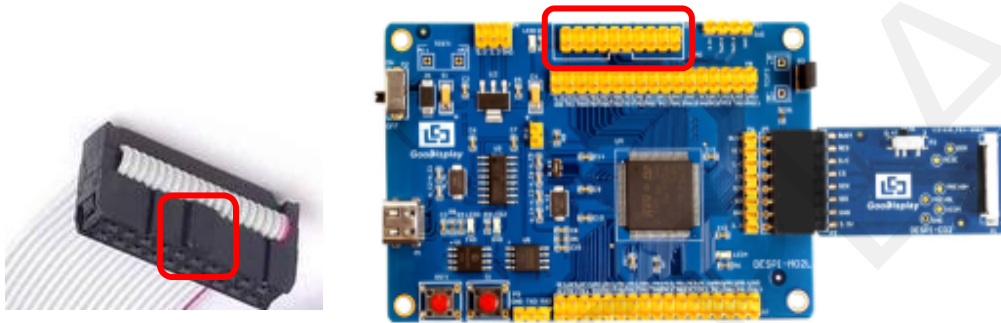

Figure 5 : Connection between JTAG and simulator
1) Connect the simulator to DESPI-M02's JTAG interface (align the raised part of the figure 5 simulator interface to the notch direction of the JTAG interface) and connect the computer USB port at the other end.